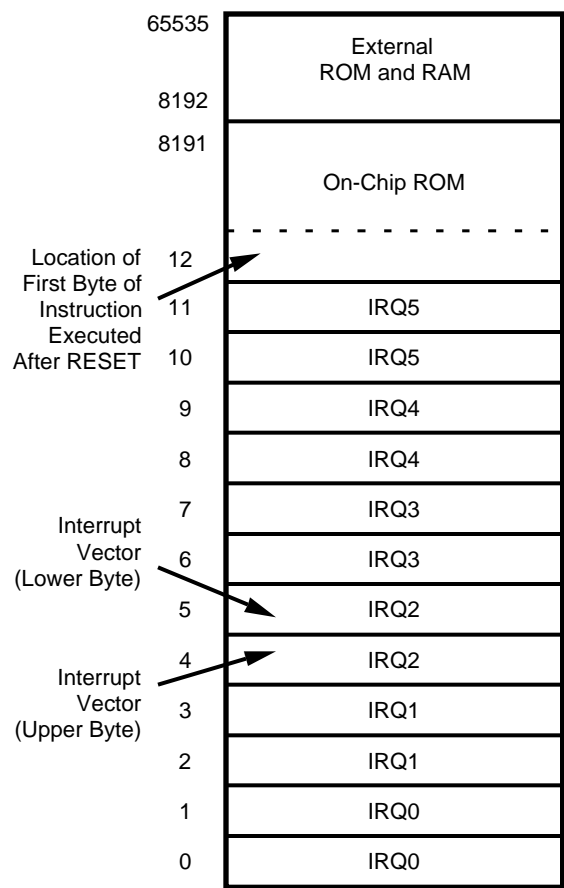

Figure 10. Program Memory Configuration
**Program Memory.** The Z86C21 can address up to 56K bytes of external program memory (Figure 10). The first 12 bytes of program memory are reserved for the interrupt vectors. These locations contain six 16-bit vectors that correspond to the six available interrupts. For ROM mode, byte 13 to byte 8191 consists of on-chip ROM. At addresses 8192 and greater, the Z86C21 executes external program memory fetches. In the ROMless mode, the Z86C21 can address up to 64K bytes of external program memory. Program execution begins at external location 000C (HEX) after a reset.